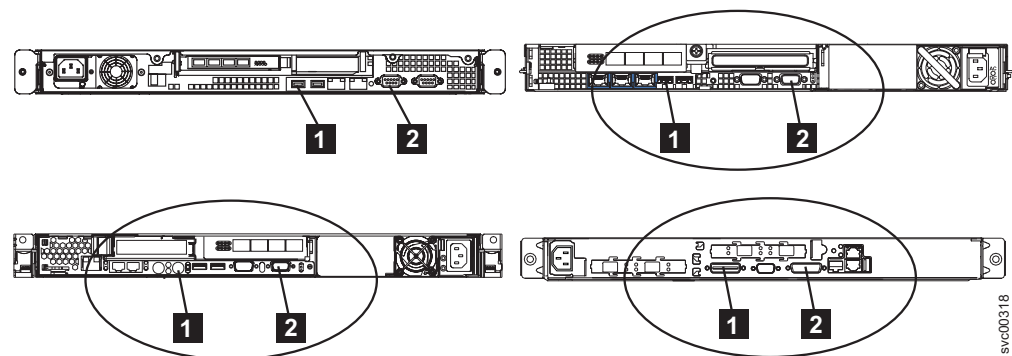
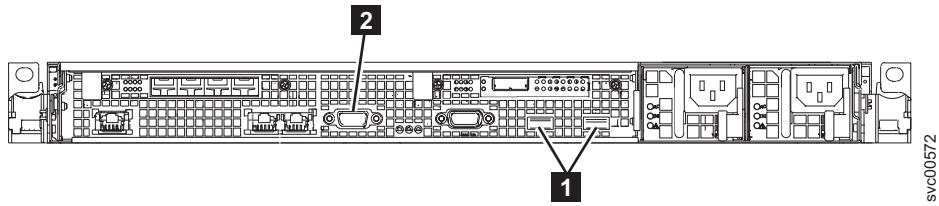

Figure 108. Keyboard and monitor ports on the SAN Volume Controller models 2145-8A4, 2145-8G4, and 2145-8F4 or 2145-8F2
Figure 109. Keyboard and monitor ports on the SAN Volume Controller 2145-CF8
- b. Connect the keyboard **1** and the display **2**. Figure 108 shows the location of the keyboard and monitor ports. Figure 109 on page 426 shows the location of the keyboard and monitor ports on the 2145-CF8.